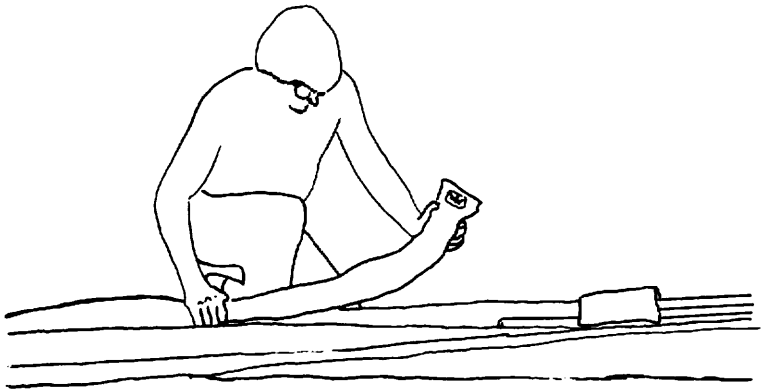

Fig 74
14) Place the battens together carefully and stow them in the batten bag. With the curved end towards the front, stow the battens between the rear leading edges of the glider. (Fig 74)